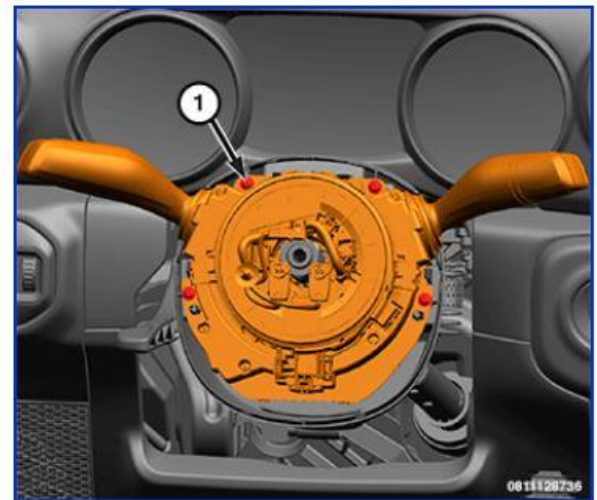

Figure 4 – SCCM Fasteners
13. Remove the fasteners (1) from the SCCM (Figure 4).